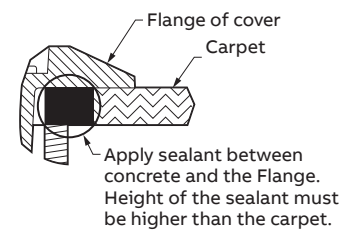

Figure 2b - Carpet
- Figure 2b for carpet floor covering.